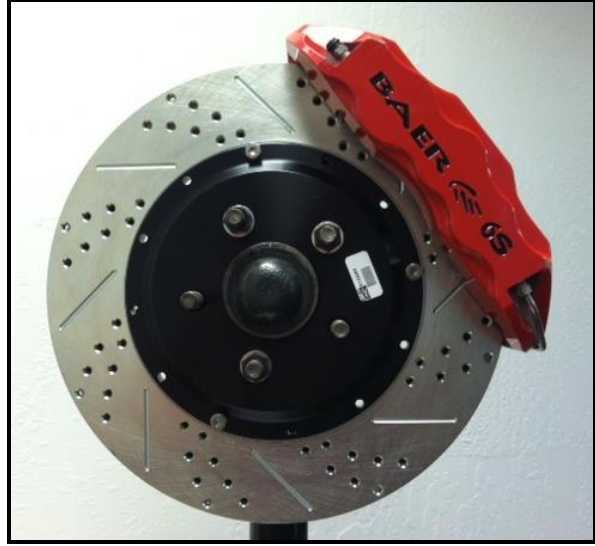

Figure 6: Complete install
10. Repeat these steps for the other side of the vehicle and be sure to recheck all attachment points and fittings. See Figure 6 for reference of completed install.